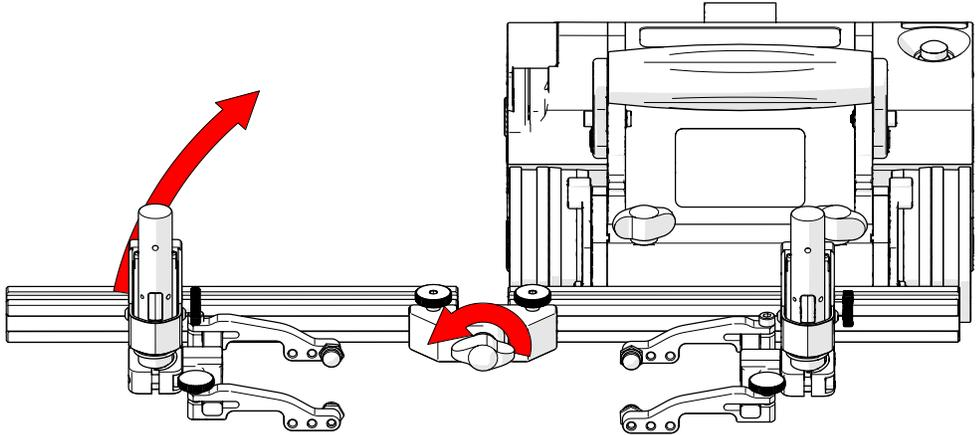

Fig. 190 - Lift frame bar to avoid interference
2. Loosen the pivot wing knob and raise the frame bar to an angle greater than the surface to be scanned (Fig. 190). Tighten the pivot wing knob and place crawler on scan surface (see "Placement of Crawler on Inspection Surface" on page 94)